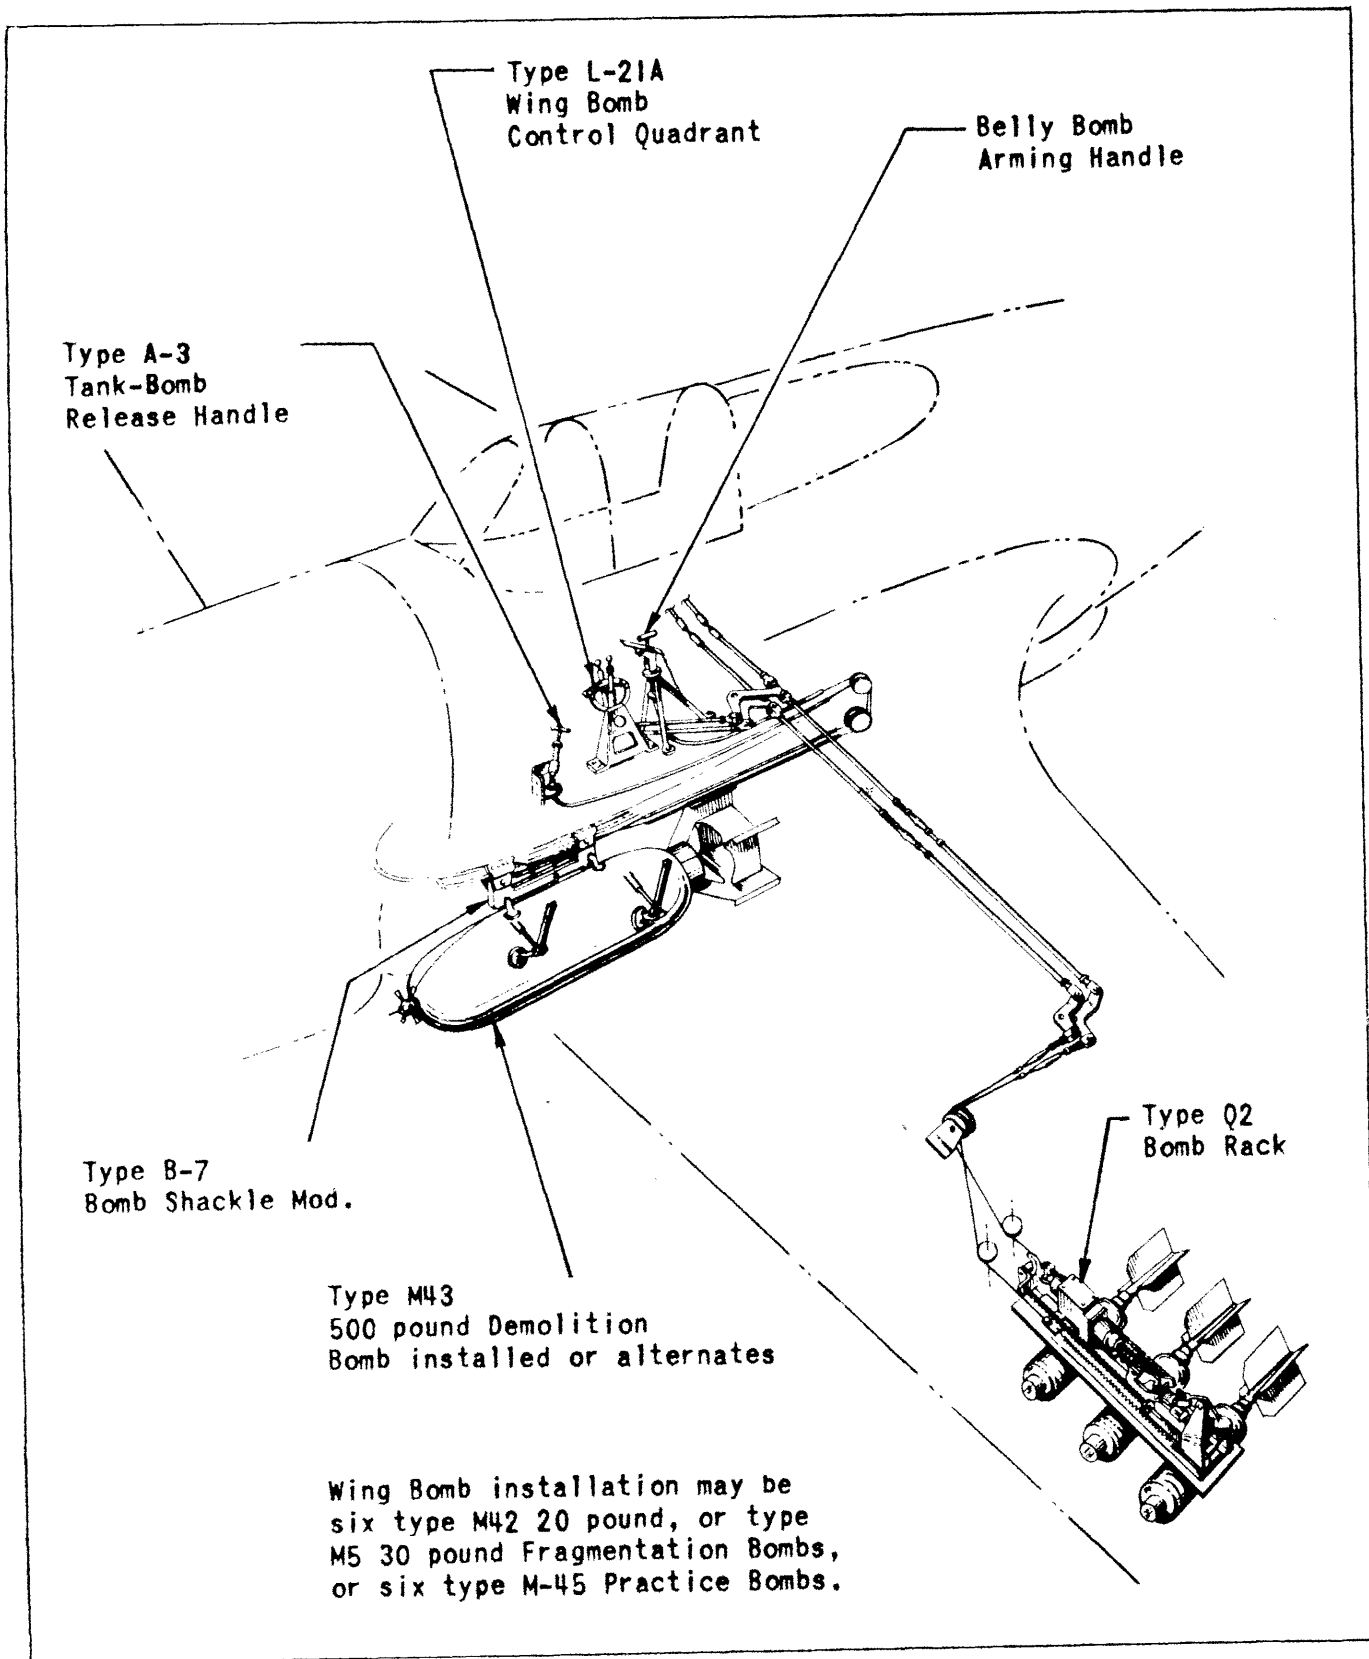

Figure 44 - Belly and Wing Bomb Controls
**a. General.** - The wing bomb installation consists of a type L-21A control quadrant in the cockpit (figure 44), two type Q2 bomb racks and doors, twelve front sway braces and six rear sway braces. Each bomb rack will support three 20-pound type M42, or three 30-pound type M5, fragmentation bombs, or, three 20-pound type M45 practice bombs.